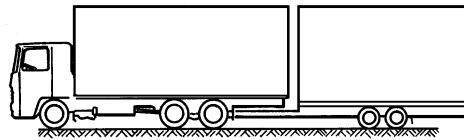

Fig. 6
- Release brake on front axle of steerable-axle trailer (see fig. 6).
When hitching a central-axle trailer (see fig. 6) please note following: